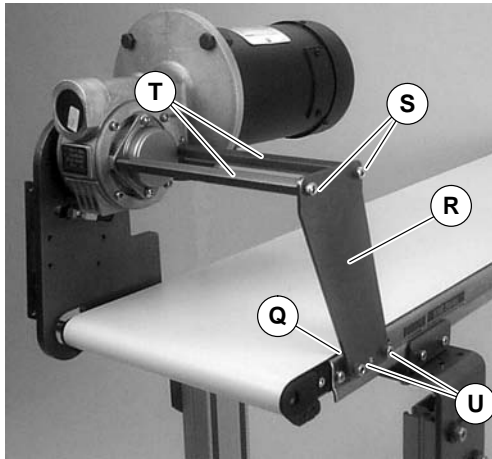

Figure 22
4. Remove screws (S & U of Figure 22) and remove support plate (R) and spacer (Q). Remove hex posts (T).